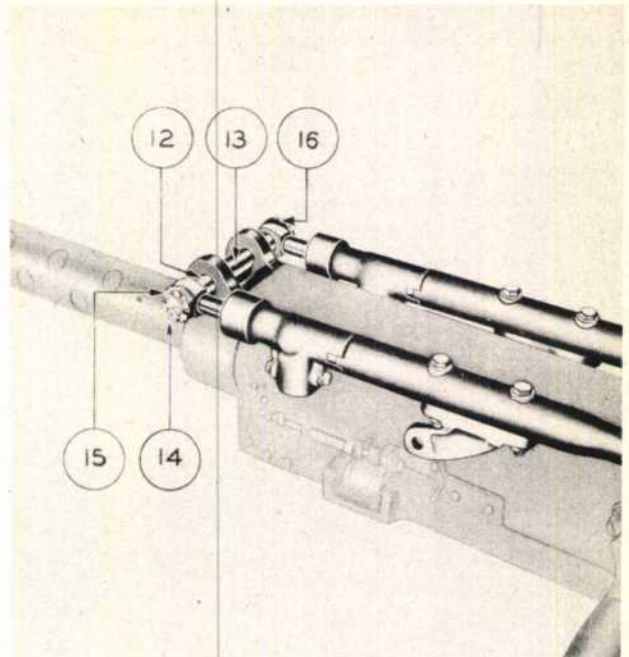

Figure 11—Assembling Front Trunnion Bolt
- f. Align shock unit eyes with holes in gun trunnions. (See figure 11.) Insert front trunnion spacers (12). Assemble front trunnion bolt (13), washer (16), nut (14), and cotter pin (15).
- c. Check front trunnion bolts (13, figure 11) for fracture; replace if necessary.